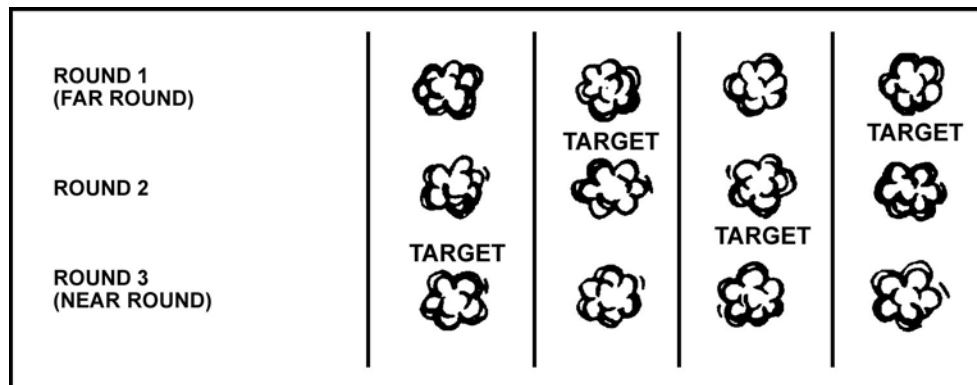
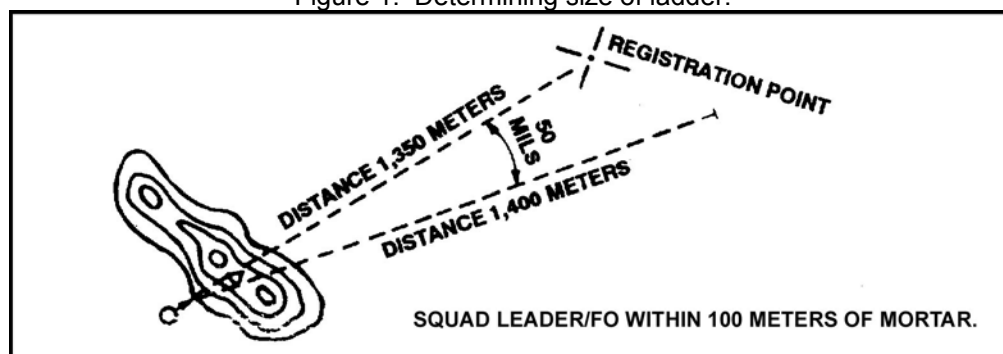

Figure 1. Determining size of ladder.
Figure 2. Firing a 200-meter ladder.
1. Estimate gun-target range. The mortar is either aligned on the target, or the FO or squad leader measures the deviation of the target from the registration point (RP) or other known point (amount of shift). He then estimates the gun-target (G-T) range.
2. Determine size of ladder. The FO or squad leader uses the minimum range change guide to determine the size ladder he must fire (Table 1). The object is to have one of the three rounds impact beyond the target and one to fall short of the target (Figure 1). Once the target is between the far round and the near round, the FO or squad leader knows the exact range to the target (Figure 1). Using the example in Figure 2, the G-T range is 1,400 meters; therefore, the FO/squad leader fires a 200-meter ladder.